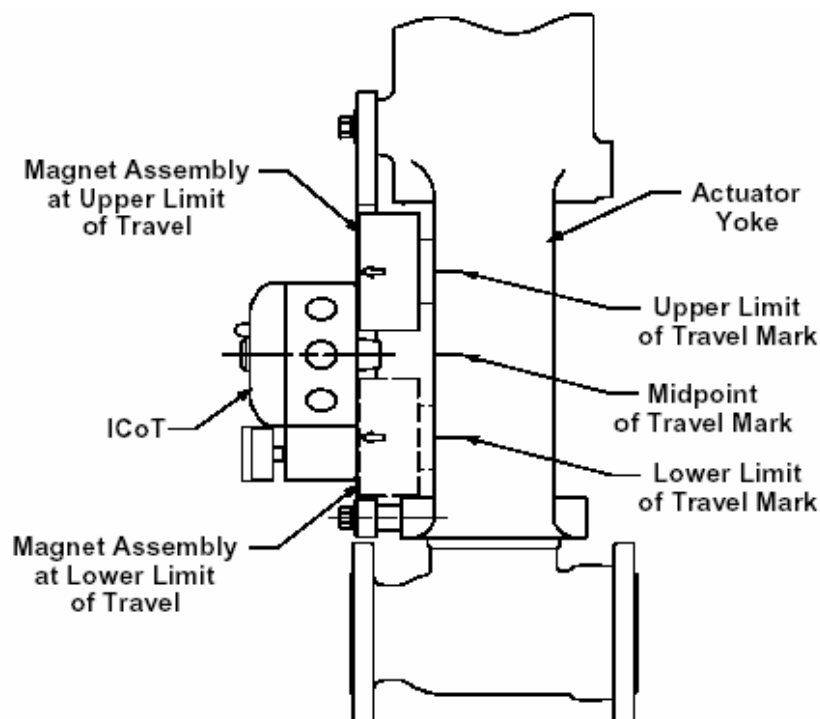

Figure 11
8.3.8. Lastly, mount the positioner to the bracket so that the positioner sensor (nose) of the ICoT lines up with the midpoint mark (See Figure 11).